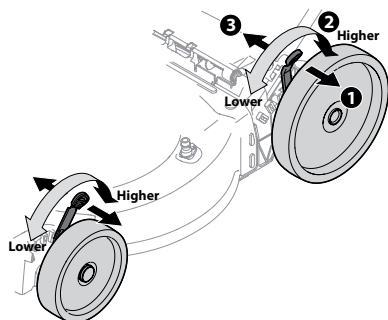

Figure 2-12
1. Pull the height adjustment lever towards wheel (unit will tend to fall when lever is moved outward). See Figure 2-12.